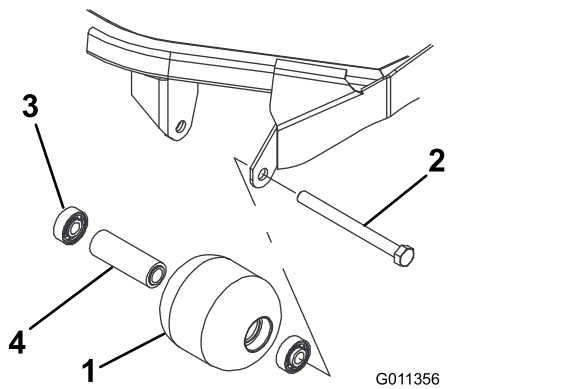

Figure 97
1. Remove the roller-mounting bolt (Figure 97).
1. Press the first bearing into the roller housing (Figure 97). Press on the outer race only or equally on the inner and outer race.
2. Insert the spacer (Figure 97).
3. Press the second bearing into the roller housing (Figure 97). Pressing equally on the inner and outer race until the inner race contacts the spacer.
4. Inspect the roller housing, bearings, and bearing spacer for damage (Figure 97). Replace any damaged components and assemble them.